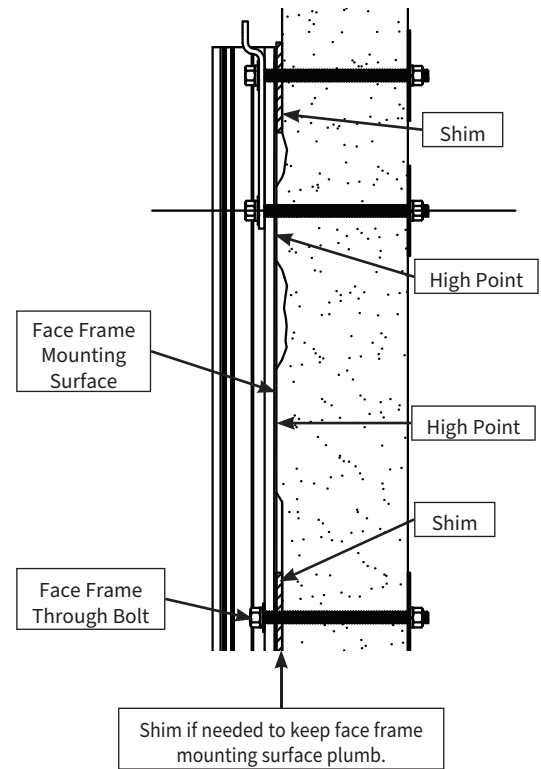

Figure 6: Face Frame Mounting Surface Detail
5. Header need to be in-line and plumb to the floor (Figure 6). If there are protrusions or obstructions on the wall, or if wall surface is not straight and plumb, face frames will need to be shimmed at specific spots to keep them plumb and in-line with respect to the header.